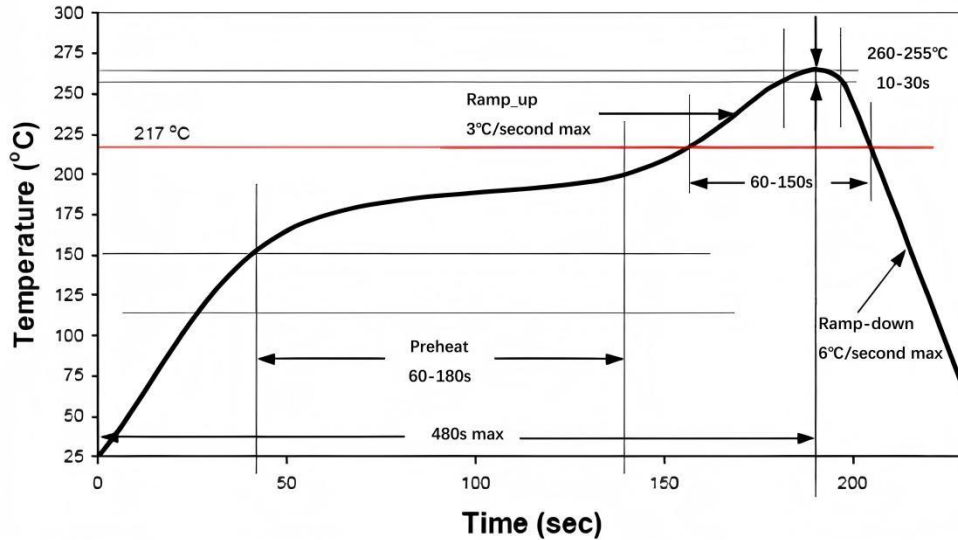

Fig.5 Reflow soldering temperature setting conditions
(1) Manual welding
(2) Wave soldering (SMD terminal type)
- The recommended wave oven temperature setting conditions are shown in Figure 5.